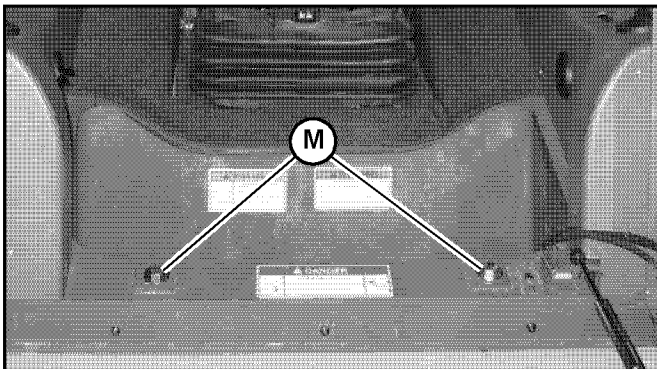

Fig. 145 – ROPS/FOPS Anchor Fasteners
Always secure the ROPS/FOPS to the chassis with anchor bolts and washers (M, Fig. 145) before driving or using the machine.
2. Remove anchor bolts and washers (M, Fig. 145) securing the front of the ROPS/FOPS to the chassis.